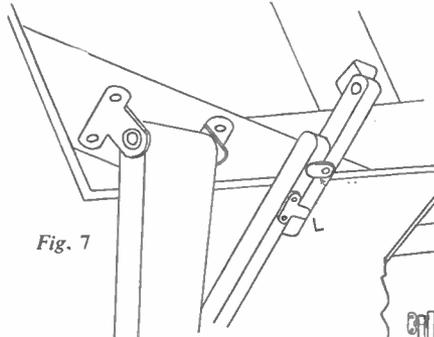
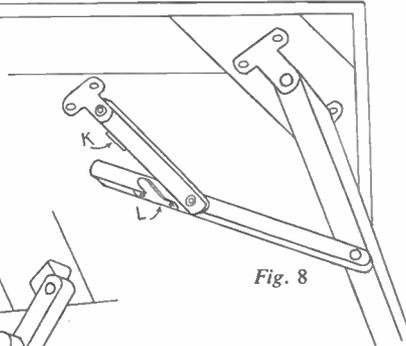

Fig. 7
Fig. 8
It is necessary to understand the folding mechanism. Fig. 7 shows the leg in position with the stay straight and held rigid by the action of the metal stop plate (L) and the slip or swivel catch (K). To close the leg to the table top, the slip catch (K) is turned back. This allows the stay to 'break' as the leg is pushed in over. Fig. 8 shows the mechanism in intermediate operation, while Fig. 9 illustrates how the leg and the two parts of the stay fold down flat